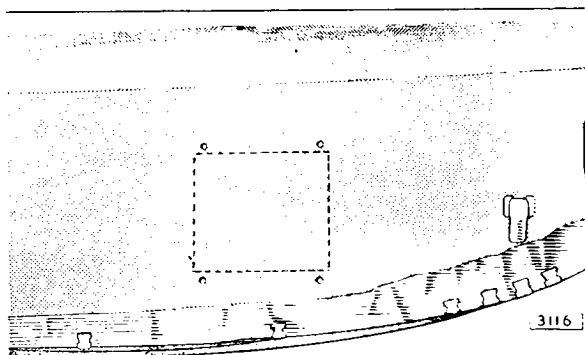

Fig. 81. Aperture to be cut $\frac{3}{8}$ " (9.5 mm.) less all round than bezel outline.
11. From inside boot, position loudspeaker mounting board symmetrically about the aperture in metal parcel shelf. Using mounting board as a template, mark and drill four $\frac{1}{4}$ " diameter holes in the metal parcel shelves, as shown in Fig. 81.